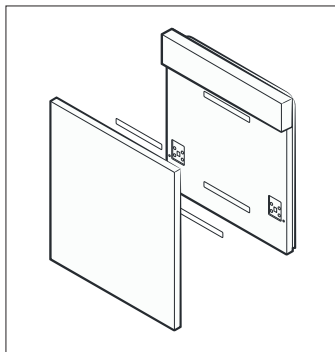

Fig. 16a
- Put the cover plate on the door of the dishwasher (Fig. 16a).